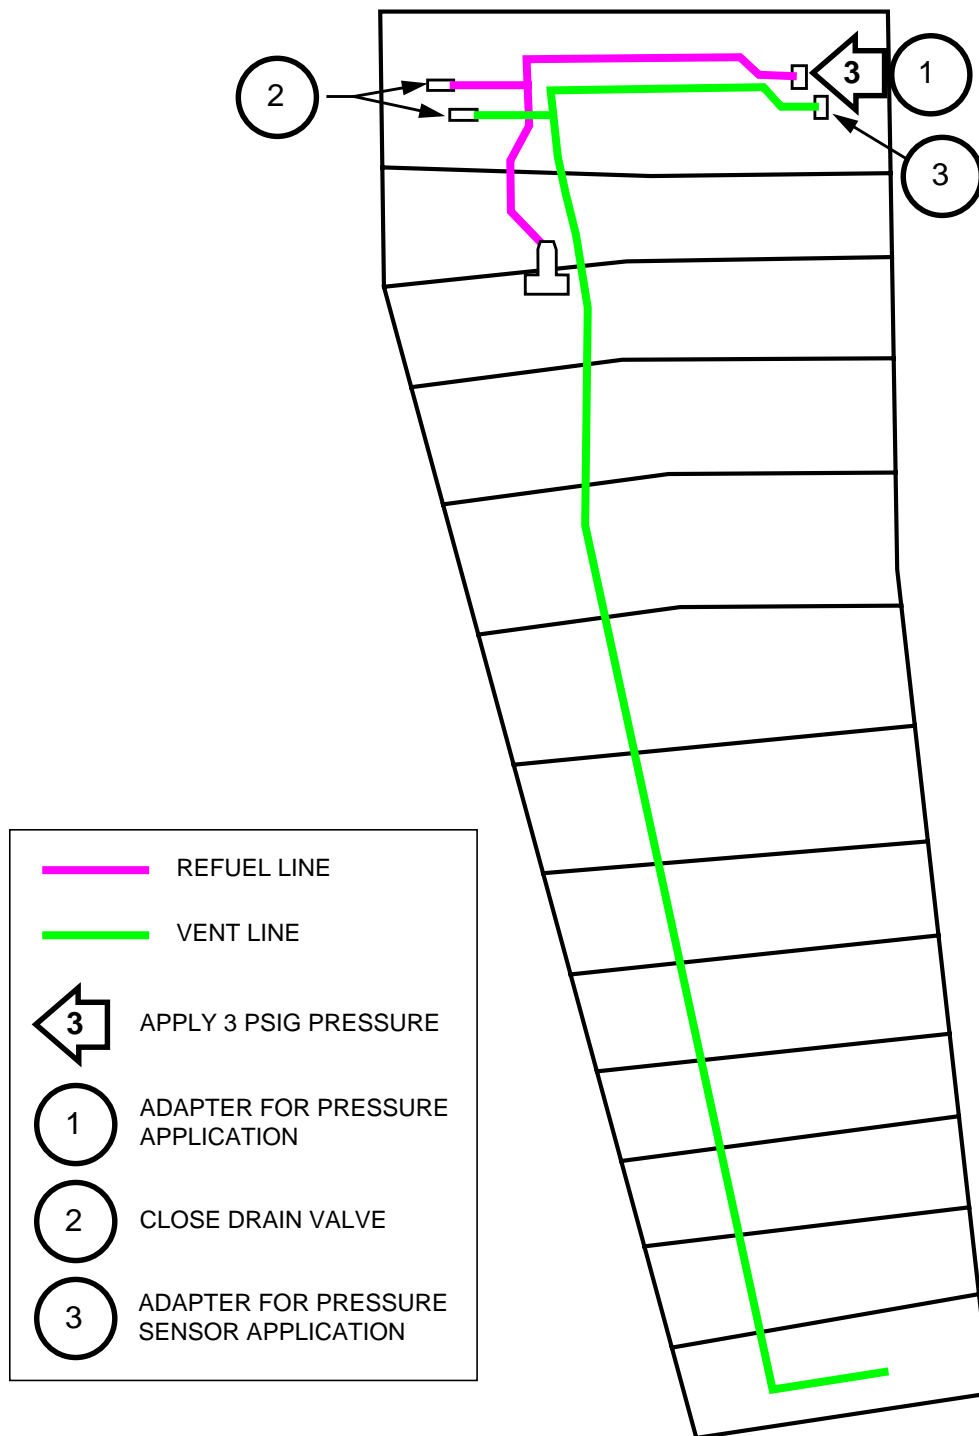

Figure 2 - Fuel Tank Pressure Application
- 5.2.1 Pressure test the main fuel tank as follows (see Figure 2):